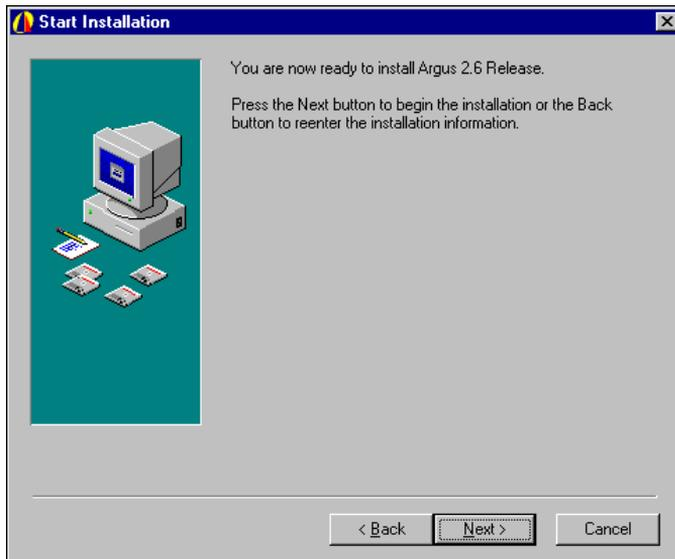

Figure 1-7. Installation Start Screen
5. On the “Start Installation” screen (Figure 1-7), click Next.